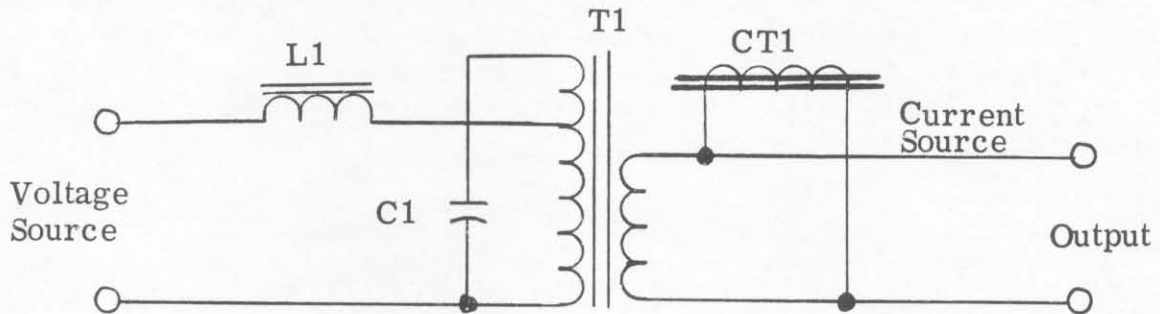

FIGURE 1 - SERIES BOOST OPTION BASIC CIRCUIT DIAGRAM
The excitation for the circuit is provided from two sources, a voltage source and a current source. The voltage source is taken from the generator output voltage and the current source is supplied from generator line current through the current transformer. Components T1, L1 and C1 (Figure 1) comprise a basic transformer regulating circuit (reservoir assembly) driven only by a voltage source. The reservoir assembly supplies the power requirements of the generator field through the KR2F voltage regulator when the generator system has no load. During no load conditions, the reservoir assembly should not be required to supply more than one-half of the total output capability of the voltage regulator.
2.1.2 The additional current necessary for the KR2F voltage regulator to provide the full load requirements of the generator is supplied by the current transformer. Current transformer CT1 (Figure 1) receives excitation from two of the generator load lines and provides a current which is added vectorially to the current from the voltage source in the reservoir assembly. Then the series boost option can supply the current necessary to maintain the maximum output of the KR2F voltage regulator. The exciter current necessary for motor starting and fault clearing is supplied entirely from generator line current.